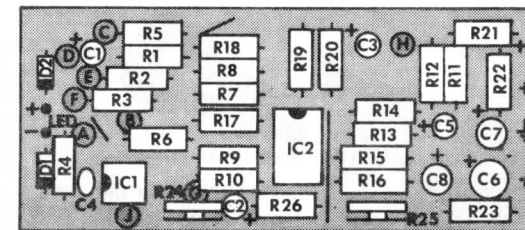
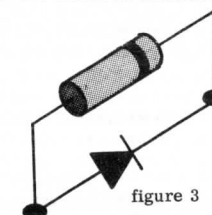

Figure 2
figure 3
Solder each of the fixed value resistors in place following the parts placement designators printed on the circuit board and the assembly drawing figure 2. Note that the fixed value resistors are non-polarized and may be mounted with either of their two leads in either of the holes provided. Cinch the resistors in place prior to soldering by putting their leads through the holes and pushing them firmly against the board; on the conductor side of the board bend the leads outward to about a 45° angle. Clip off each lead flush with the solder joint as the joint is made. Save the lead clippings for use as jumpers in later steps.
Install the diodes D1 and D2. Note that these parts are polarized and must be properly oriented in order to operate properly. Polarization of the diodes is indicated by a colored band on one end of the case. Install as shown in figure 2. The physical appearance of the device is related to the schematic symbol used on the circuit board parts placement designators in figure 3.
- () Using the excess leads clipped from resistor installation, form and install the three wire jumpers indicated by the solid lines printed on the circuit board and shown in the parts placement diagram figure 2.